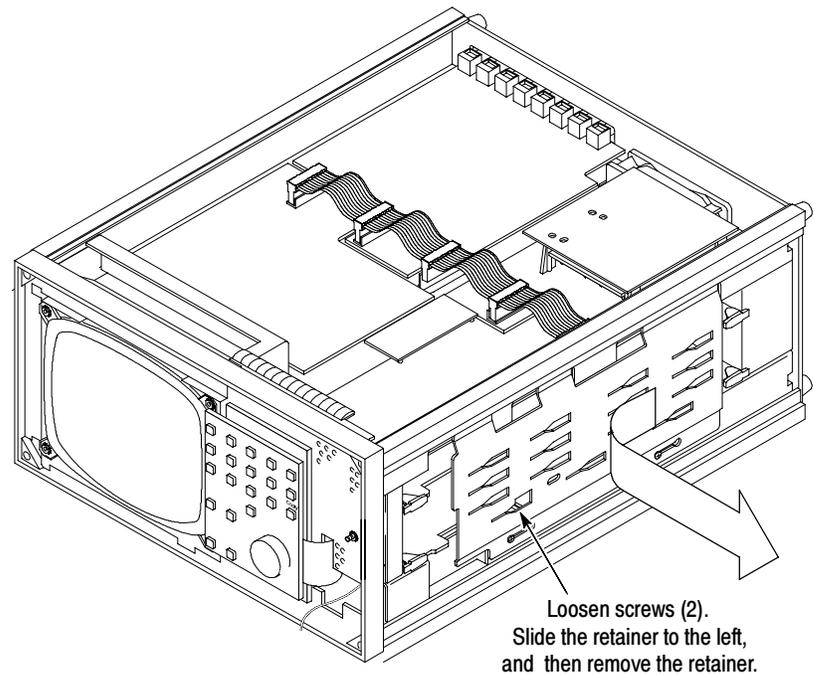

Figure 4: Loosening the screws on the right card cage retainer
- a. Loosen, but do not remove, the two screws on the front of the card cage retainer. See Figure 4.
- e. Replace the right-side card cage retainer. See Figure 4 on page 9.
- b. Place the card cage retainer onto the two screws, and slide it to the right. See Figure 4 on page 9.